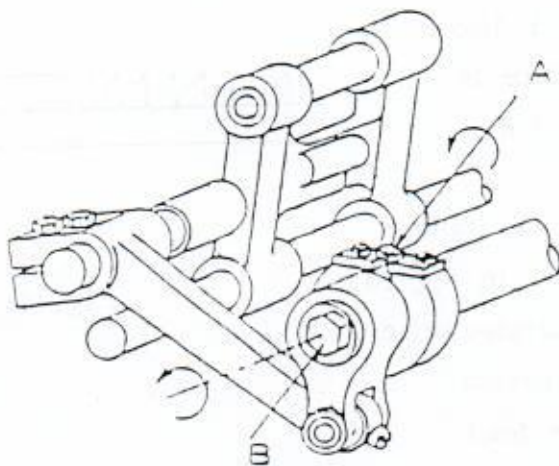

Fig. 7
1. Loosen the feed adjusting nut B in Fig 7.